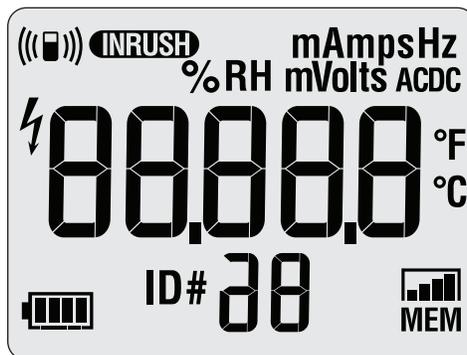

Figure 1. All Segments of the Display
2. Push **Ⓢ** while you keep **LOG** pushed until all of the display segments are shown. See Figure 1.